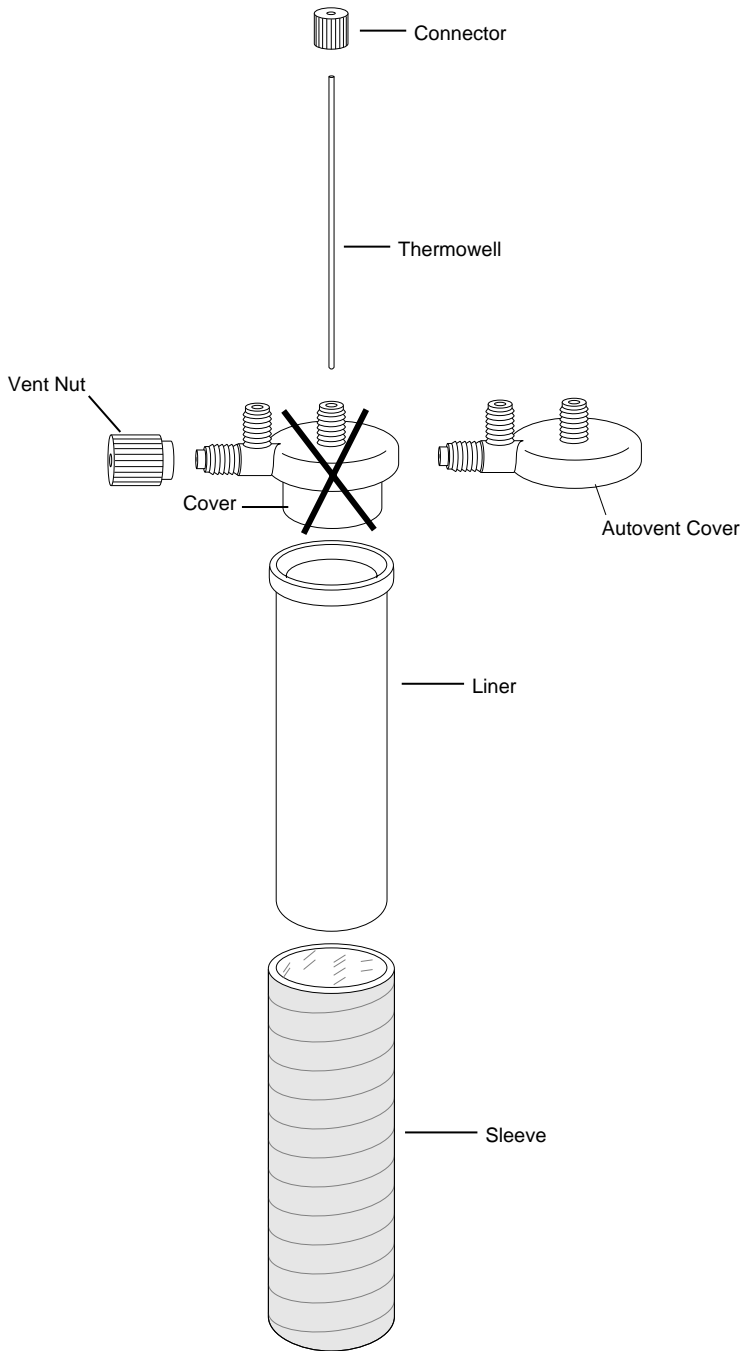

Figure 9. Assembly of Control Vessel with Autovent Option
2. If using temperature and/or pressure control, assemble the HP-500 Plus or XP-1500 Plus control vessel as outlined in this manual with the exception of the cover. Replace the control cover with the autovent control cover (figure 9).